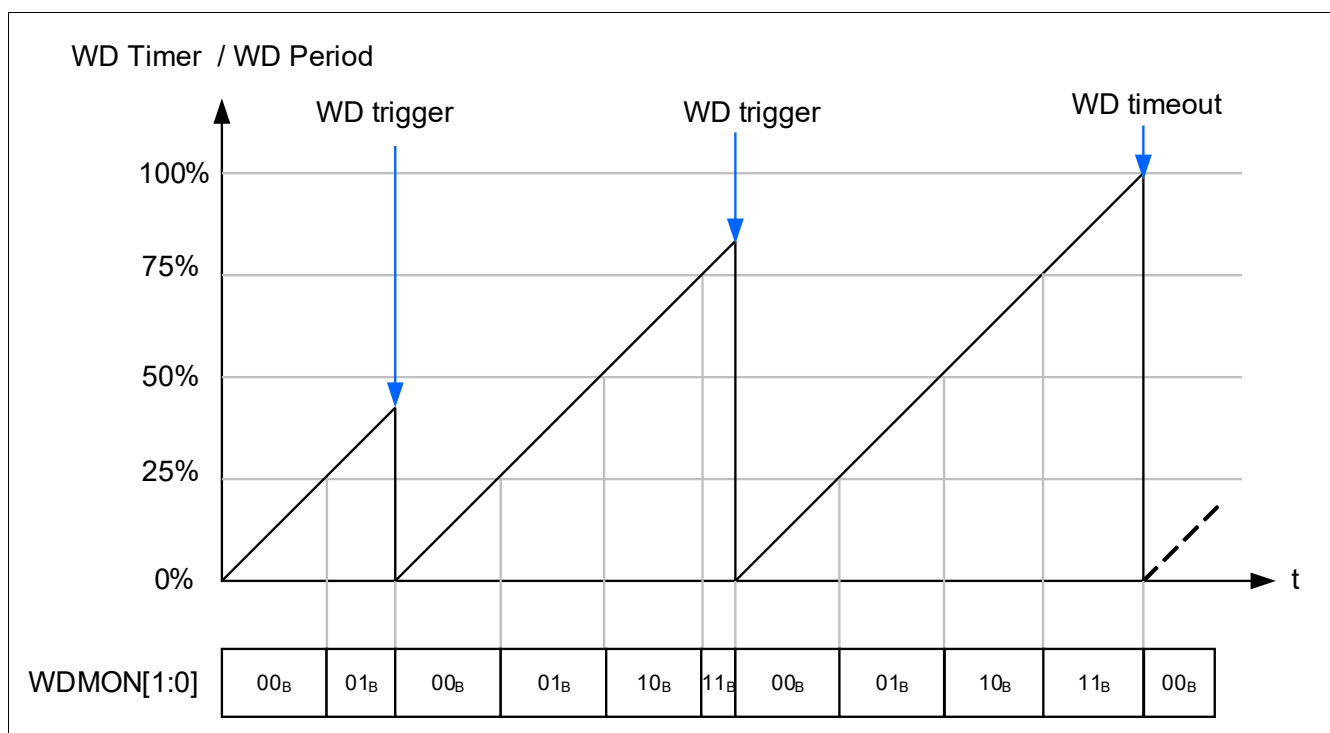

Figure 38 Example of watchdog monitoring and watchdog timeout
- The watchdog trigger bit is not served within the watchdog period (watchdog timeout event). See **Figure 38**³⁾.
The status bits **WDMON[1:0]** report the relative position of the watchdog timer to the watchdog period. Refer to **Table 21** and **Figure 38**. This allows the detection of a potential latent failure associated to the watchdog timer: the microcontroller can indeed verify that the watchdog timer is running.